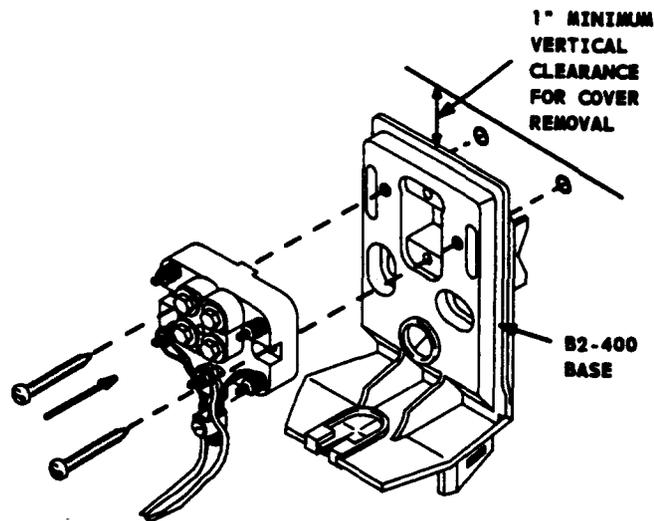

Figure 17. Mounting Protector/Base Assembly
- (2) Slit the horseshoe grommet located on the B2-400 base. Insert all of the wiring into the slit of the horseshoe grommet. Align the base mounting holes with the existing mounting holes in the wall. Align the 128-type protector block mounting holes with the corresponding base mounting holes. Using No. six, 5.08 centimeters (2-inch) screws furnished in the B2-400 base packing bag, mount the entire protector/base assembly to the wall (Figure 17). Ensure that 2.54 centimeters (1-inch) minimum vertical clearance is left between the top of the base and any obstruction for cover removal.